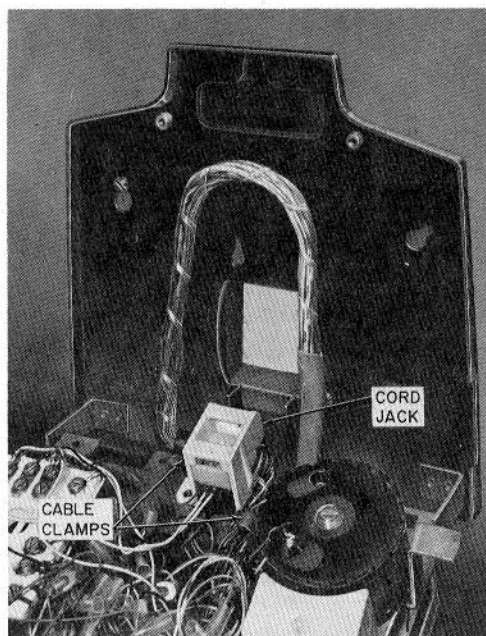

Fig. 7—Inside Wiring Cable, Exposed Wiring (Early Version)
- (3) Slip one of the clamps provided with set around conductors approximately 9 inches from end of sheath. Add second clamp 2 inches above first.
- (4) Form slack loop as shown in Fig. 7 or 8 and install first clamp in hole to left of cord jack.
**3.06** On all sets except CM codes, if the set is served by the connector equipped end of an A25B connector cable, a D-180375 Kit of Parts must be used to obtain raw-ended conductors for termination. The mated connector and plug should be located as shown in Fig. 9. Check that connector and plug do not interfere with operation of line switch. Cable is routed and fastened in same manner as IW cable (Fig. 7 and 8).